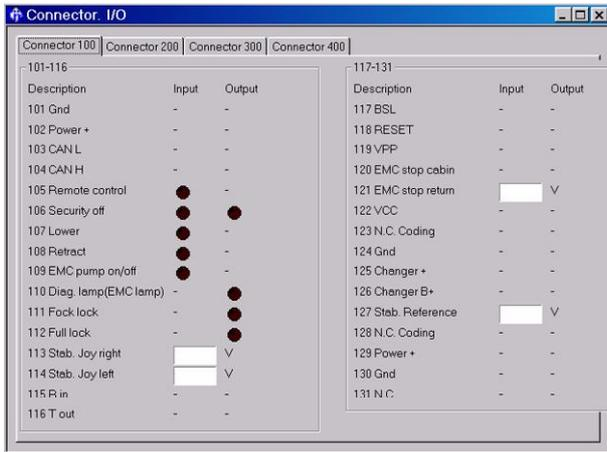

Fig 21.
- 1 Open the 'Connector I/O' window. There are four connector I/O screens. Each screen represents the input/output status for one ECU connector, for example 'Connector 100'. The window displays 'real time' functions that apply at the moment they are viewed as the machine is operating. ⇒ Fig 21. \(□ 23\)